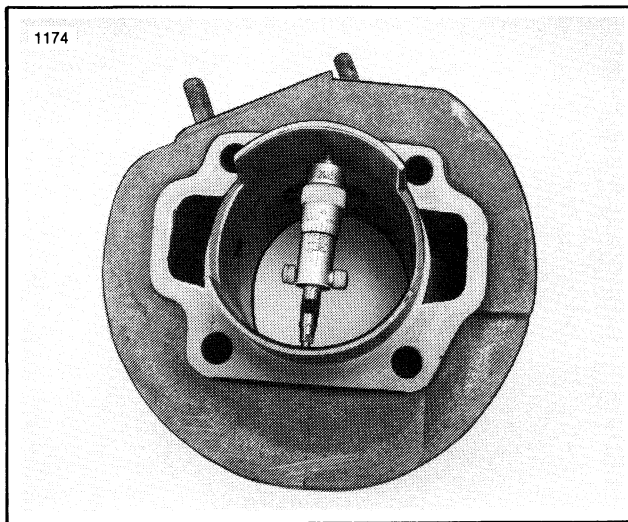

Figure 5-10. Measuring Cylinder 1 1/2" From Bottom
3. See Figure 5-10. Take cylinder bore measurement 1-1/2 in. from bottom of bore, measuring from front to rear, then left to right. Record the measurements.